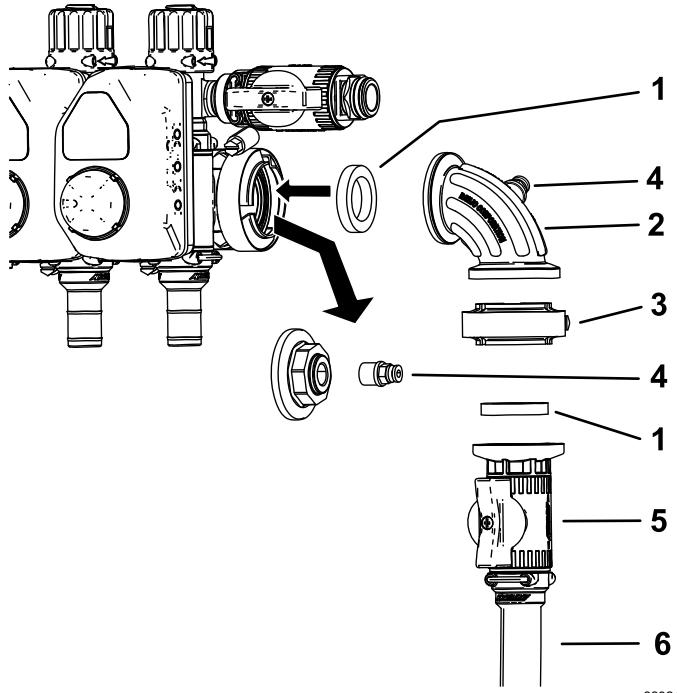

Figure 23
11. Disconnect the cap and coupler from the pressure-gauge port (Figure 23).
12. Install the control valve assembly vertically as shown in Figure 23.
13. Install the coupler into the open port on the 90° fitting (Figure 23).